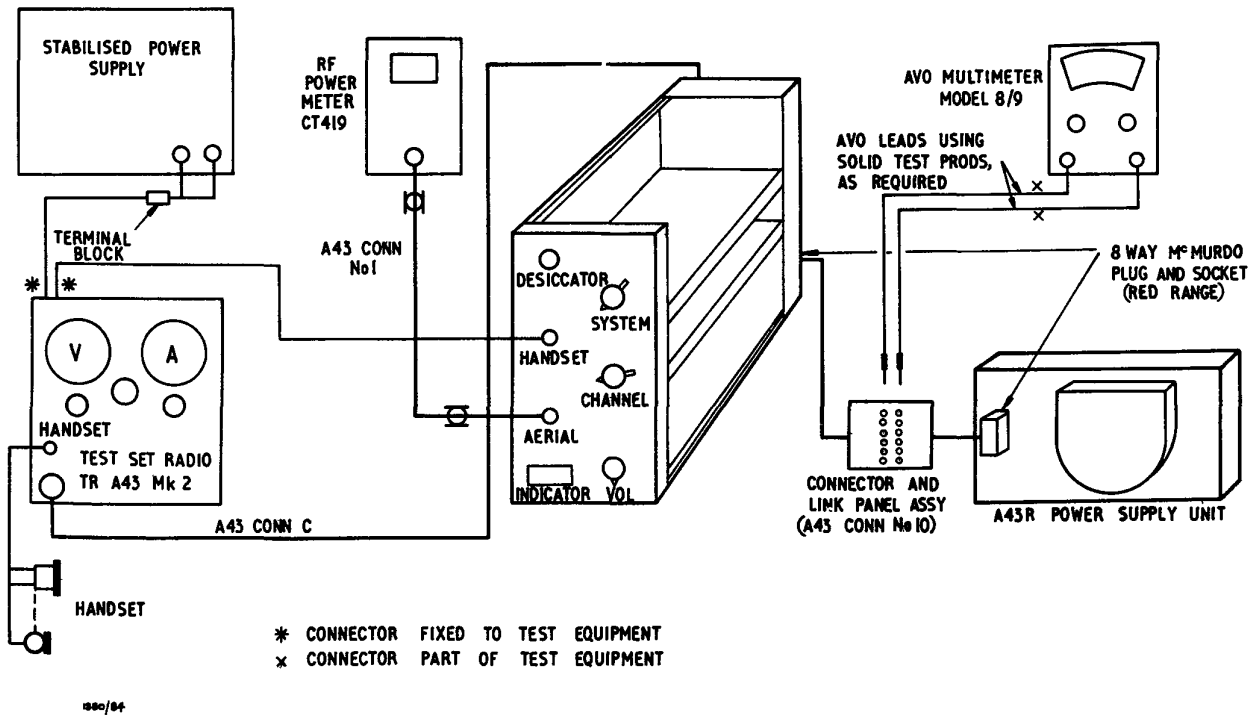

Fig 13 - Power supply unit, test layout (A43R load)
84. Connect the test equipment as shown in Fig 13. Check current and ripple voltage as follows, with input voltage set to 11.5V d.c.